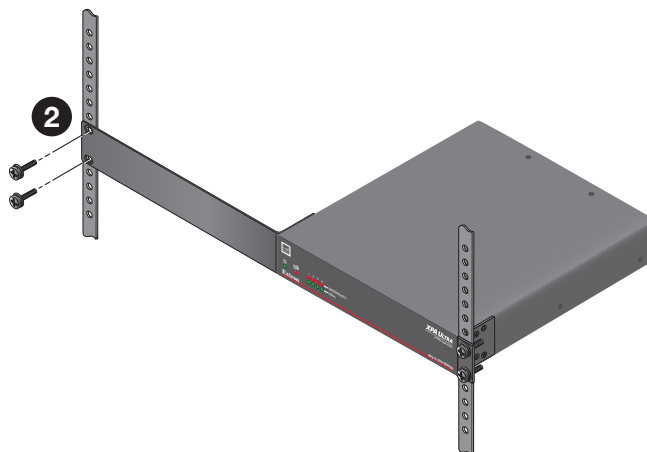

Figure 4. Secure XPA Ultra Amplifier to Rack
4. Secure the amplifier to the rack using four provided 10-32 x 3/4" screws (see figure 4, ②).